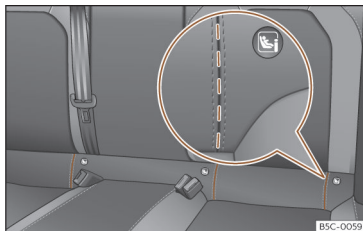
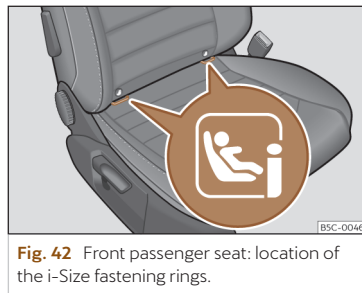

Fig. 41 Rear seat: die cut slots to access the ISOFIX / iSize securing rings.
Fig. 42 Front passenger seat: location of the i-Size fastening rings.
The location of the ISOFIX or i-Size anchor points is indicated by a symbol >>> **Fig. 41**, >>> **Fig. 42**. In some vehicles, the rings are secured to the seat frame and, in others, they are secured to the rear floor.
• First open the cut-out section behind the marked grooves to access the retaining rings >>> **Fig. 41.**